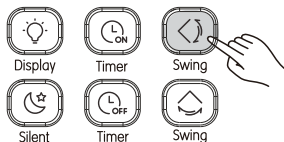

Figure 3.11
① When the unit is on. Press  (see Figure 3.11). Start the vertical swing function, and the  will light up, and signal is sent to the indoor unit;